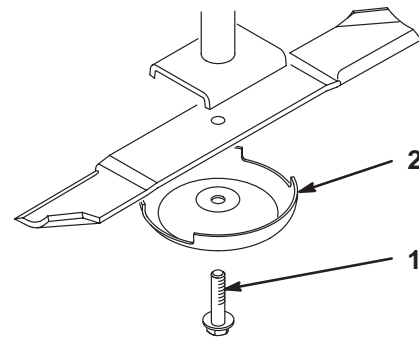

Figure 84
- Grasp the end of the blade using a rag or thickly padded glove. Remove the blade bolt, anti-scalp cup, and blade from the spindle shaft (Fig. 84).